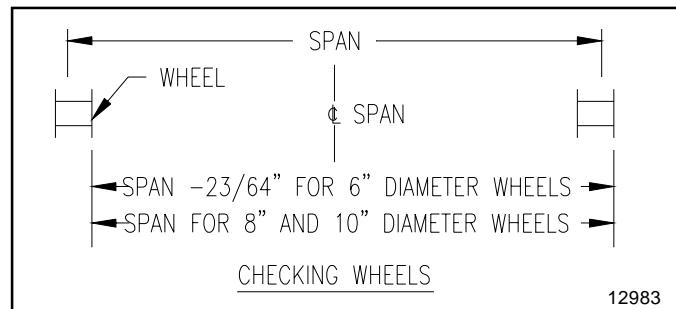

Figure 4.
3. To check the distance between the trucks, push all truck wheels toward the center of the span. The distance from the outside of the wheel on one side of the span to the inside of the wheel on the other side of the span should equal the span length for the 8" and 10" diameter wheels. For the 6" diameter wheels this dimension should be the span length minus $23/64"$. See Figure 4. The tolerance on these distances is $\pm 1/32"$.